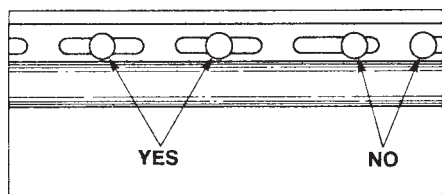

FIG. 7 Fastening Location in Siding Slots
- 9.1.2 Center fasteners in slots of siding and accessories to permit possible expansion and contraction. (See Fig. 7.)